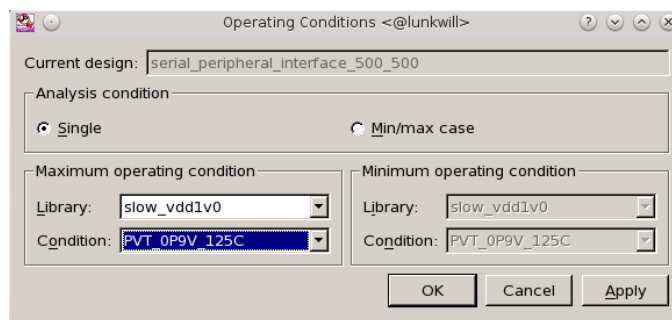

Figure 2.4: Operating Conditions window.
1. Go to **Attributes** → **Operating Environment** → **Operating Conditions...** The window of Figure 2.4 appears.